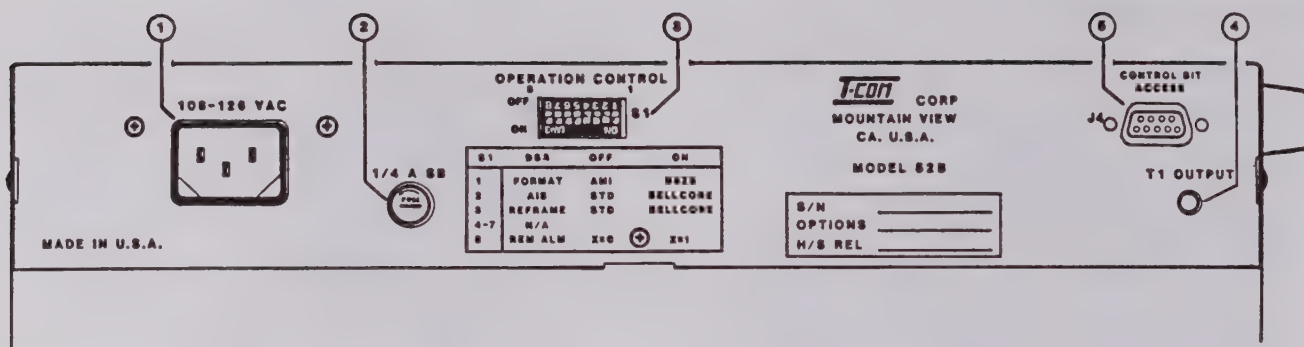

Fig 3.2 52B Rear Panel Features
- 3.3 The 52B rear panel features are described below. The description numbers match the numbers in figure 3.2.
3.4.1.1 The rear panel mounted dip switch, item 3 in figure 3.2, enables the 52B to be configured so as to conform to various M1-3 multiplexer makes and vintages. The assignments for the various switch positions are given in table 3.1 on the following page.
The demultiplexed DS1 group is not internally characterized by the 52B. Instead, this signal is supplied as a T1 formatted PCM output on the rear panel of the 52B. Refer to jack (4) on figure 3.2. The demultiplexed signal can be analyzed by any T1 compatible PCM test set.